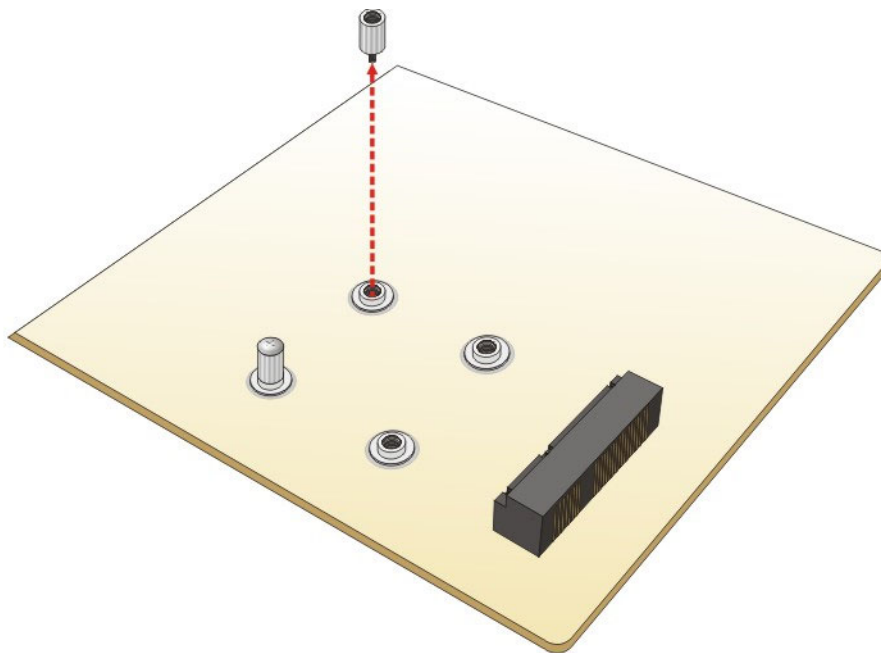

Figure 4-6: Removing the Standoff
Step 3: Remove the standoff. Unscrew and remove the standoff secured on the motherboard as shown in **Figure 4-6**.